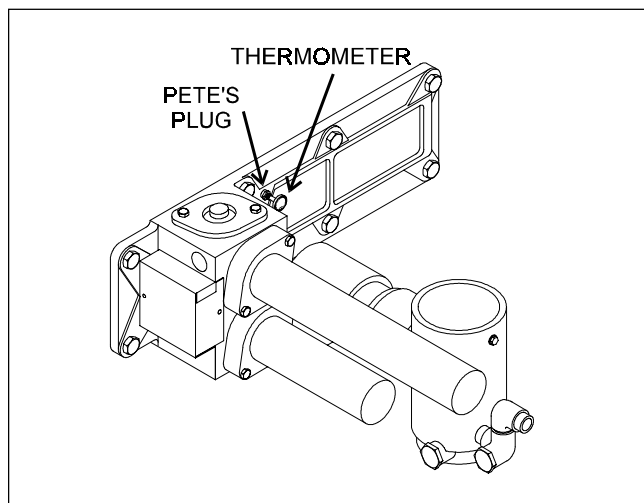

Figure 4. Thermometer Location
3. Remove the 1/4 inch (6.35 millimeters [mm]) National Taper Pipe (NPT) plug located on the inlet/outlet header (see Fig. 4) and replace it with a Pete's plug.